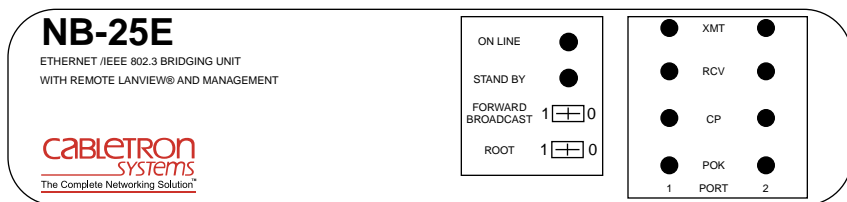

Figure 4-1 LANVIEW LEDs
1. Move the Forward Broadcast switch on the front panel of the Bridge (Fig. 4-1) to the On (I) position. This will allow broadcast messages sent by the LAN-MDs to pass through the bridge.
The NB20E and NB25E Two Port Ethernet Bridges use Cabletron Systems' built-in visual diagnostic and status monitoring system called LANVIEW. With LANVIEW, network troubleshooting personnel can quickly scan LANVIEW's LEDs to observe network status, or diagnose network problems. Figure 4-1 displays the LANVIEW LEDs on the NB20E and NB25E.
The Forward Broadcast switch, Figure 4-1, allows the user to select whether the bridge will forward broadcast messages from one network segment to the other. When the switch is in the On (I) position, the bridge will allow broadcast messages to pass.
In a multiple-bridge environment, the Root switch, Figure 4-1, for a particular bridge allows the user to set that bridge as the root bridge. Only one bridge can serve as the root bridge in a multiple bridge environment, however. In the event that two bridges have been selected as root bridges, the bridge in the environment with the lowest identifier will become the root bridge.